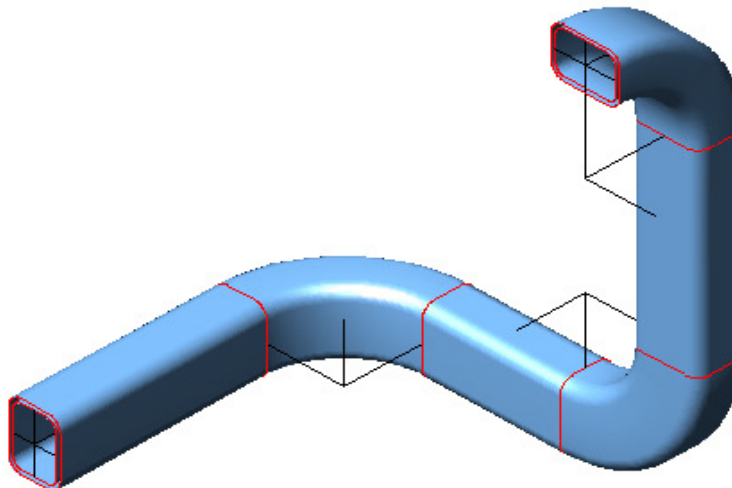

Figure Step 16
Step 16 Using what was just taught, complete the model. (Figure Step 16)